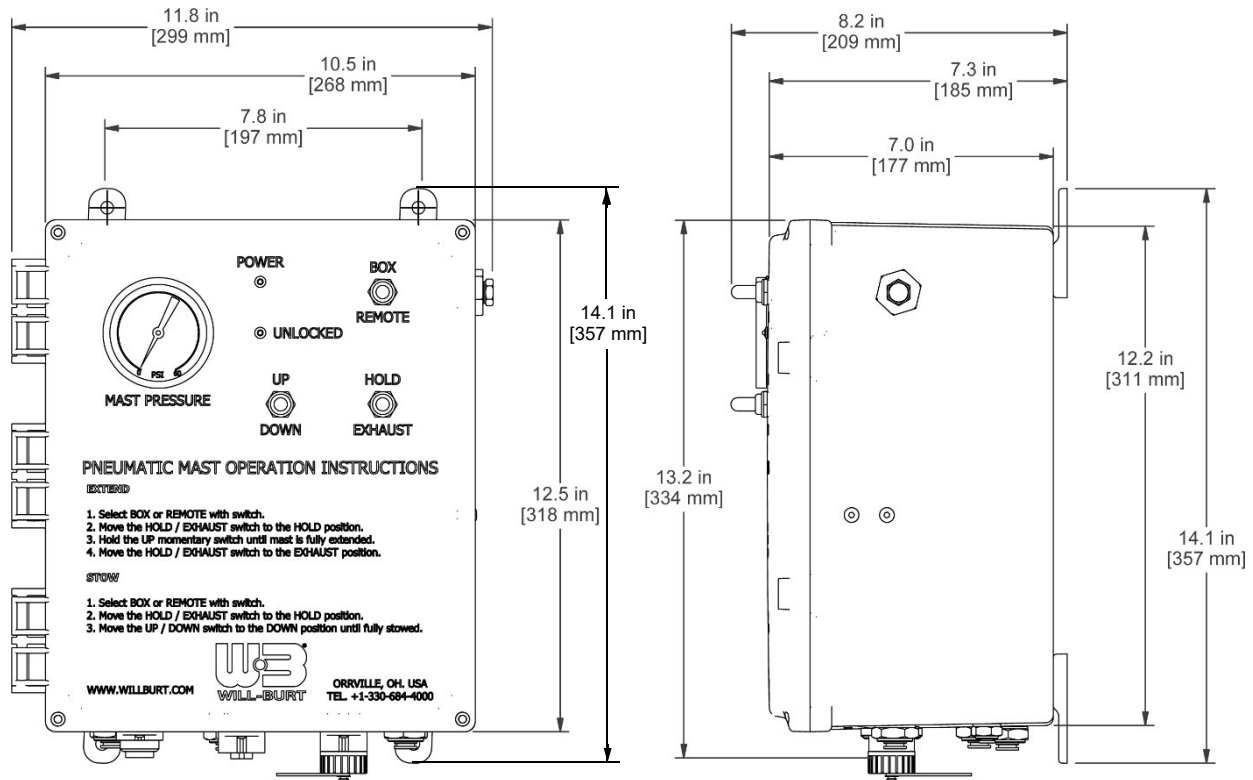

Figure 4-15 Control Box Installation Specifications (P/N: 5557301)
- Has the dimensions shown in Figure 4-15.